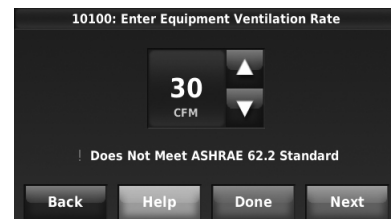

Fig. 149.
6. If ASHRAE was selected for ISU 10050, enter the Equipment Ventilation Rate (CFM). Be sure this setting corresponds with the actual ventilator speed. This setting determines how often the ventilation equipment will operate to meet the ASHRAE 62.2 Standard. The thermostat will indicate the following based on the Equipment Ventilation Rate, Square Footage and Number of Bedrooms. See Fig. 149.